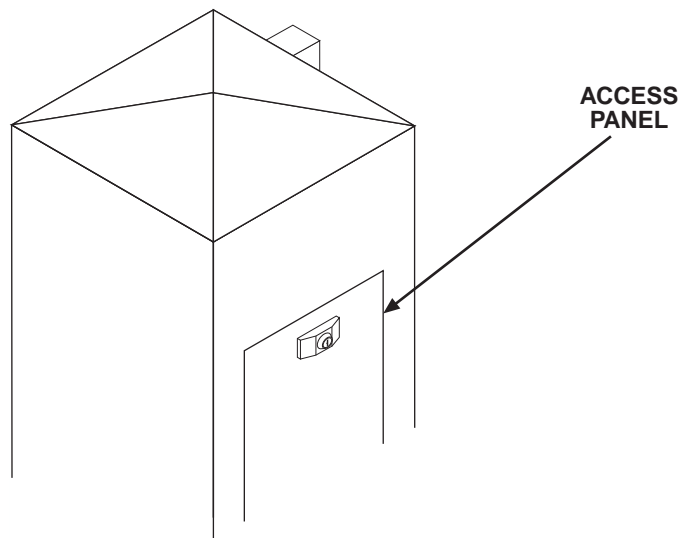

Figure 2-2. Pedestal access panel
3. Open the access panel (see figure 2-2).